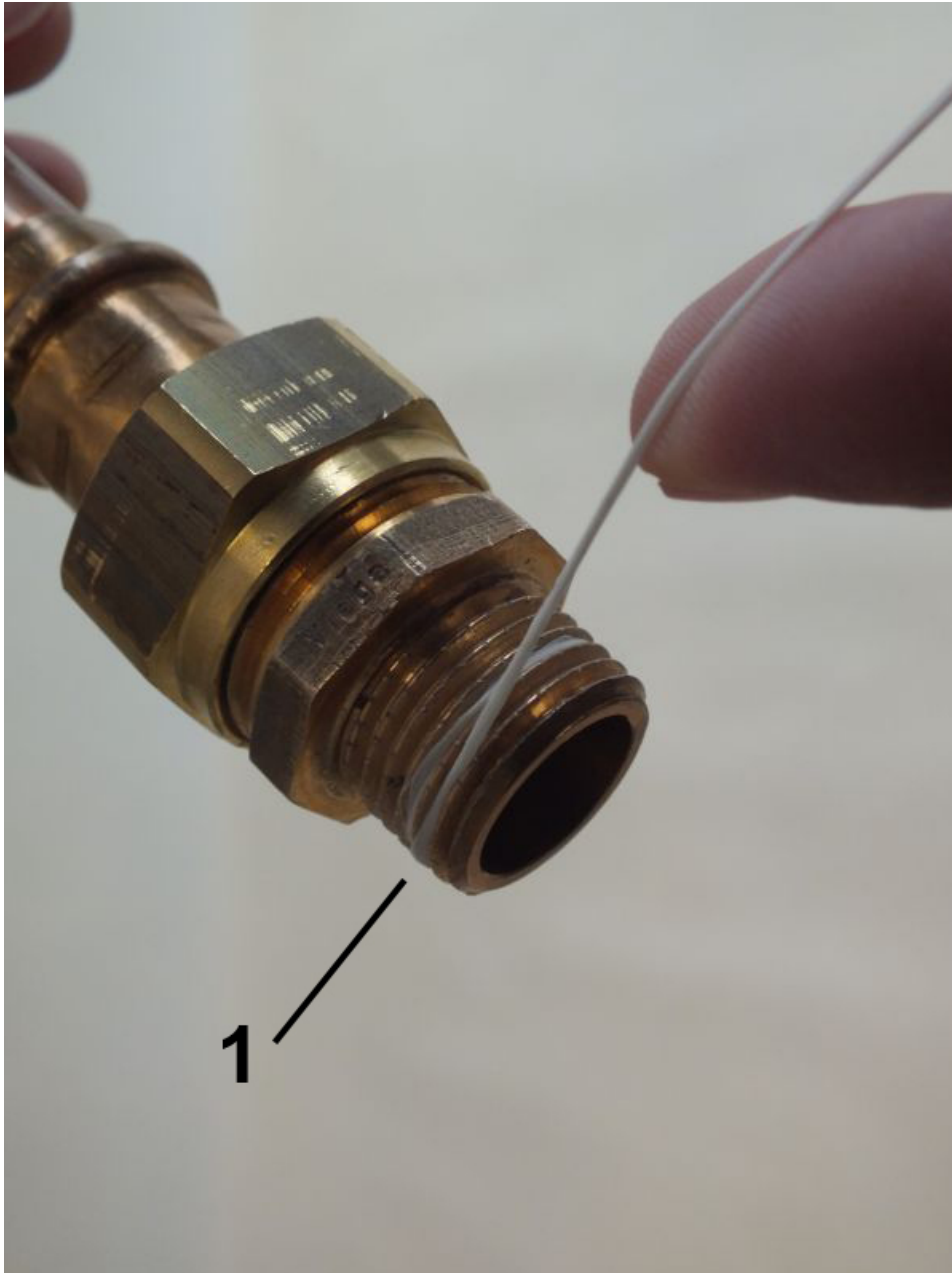

Fig. 9: Apply sealing thread
- 2.** ➤ Apply sealing thread (*Fig. 9/1*) to the napped area in the threaded direction. Observe the quantity recommended by the sealant manufacturer.